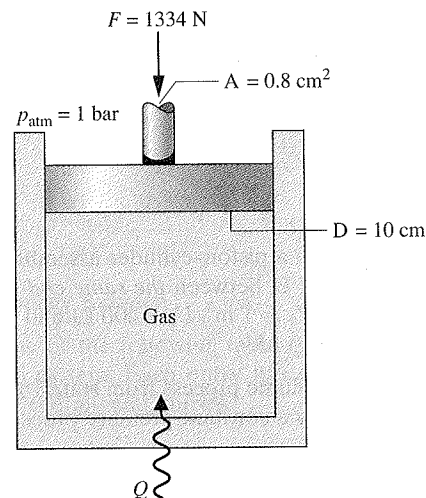

Fig. P2.73
2.73 Figure P2.73 shows a gas contained in a vertical piston-cylinder assembly. A vertical shaft whose cross-sectional area is 0.8 cm^2 is attached to the top of the piston. The total mass of the piston and shaft is 25 kg. While the gas is slowly heated, the internal energy of the gas increases by 0.1 kJ, the potential energy of the piston-shaft combination increases by 0.2 kJ, and a force of 1334 N is exerted on the shaft as shown in the figure. The piston and cylinder are poor conductors, and friction between them is negligible. The local atmospheric pressure is 1 bar and $g = 9.81 \text{ m/s}^2$. Determine, (a) the work done by the shaft, (b) the work done in displacing the atmosphere, and (c) the heat transfer to the gas, all in kJ. (d) Using calculated and given data, develop a detailed accounting of the heat transfer of energy to the gas.